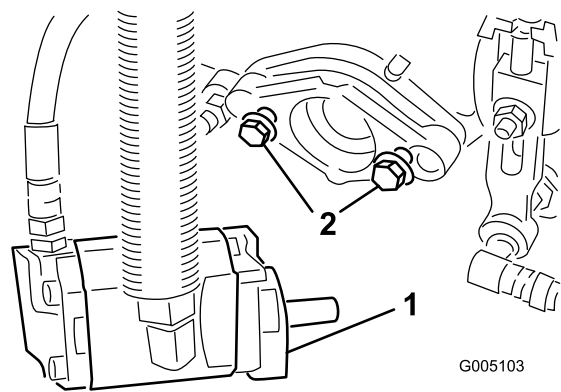

Figure 10
7. Assemble the mounting bolts for the reel drive motor to each cutting unit. Leave approximately 1/2 inch (13 mm) of threads exposed on each mounting bolt (Figure 10).
11. **Tighten the mounting bolts** (Figure 10).